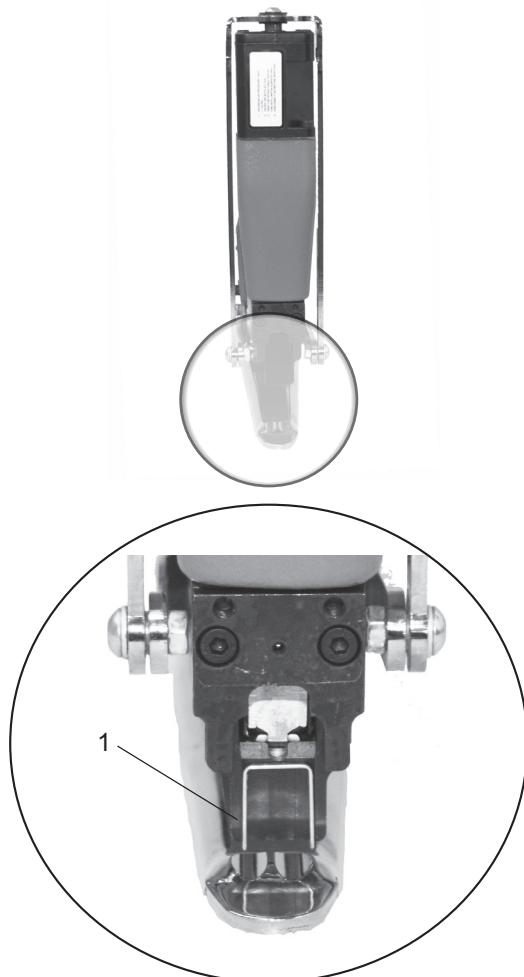

Fig. 10
- Insert a lose staple into the nozzle (Fig.10/1).